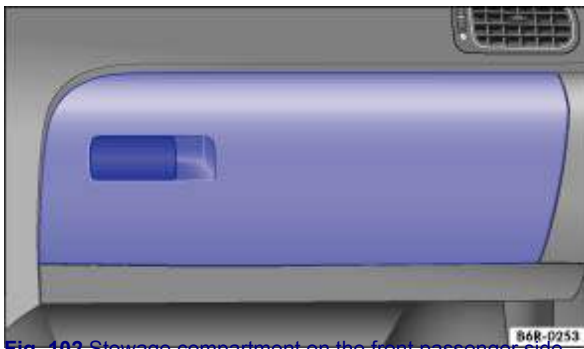

Fig. 102 Stowage compartment on the front passenger side
- To *open*, pull up the opening lever → *Fig. 102*.